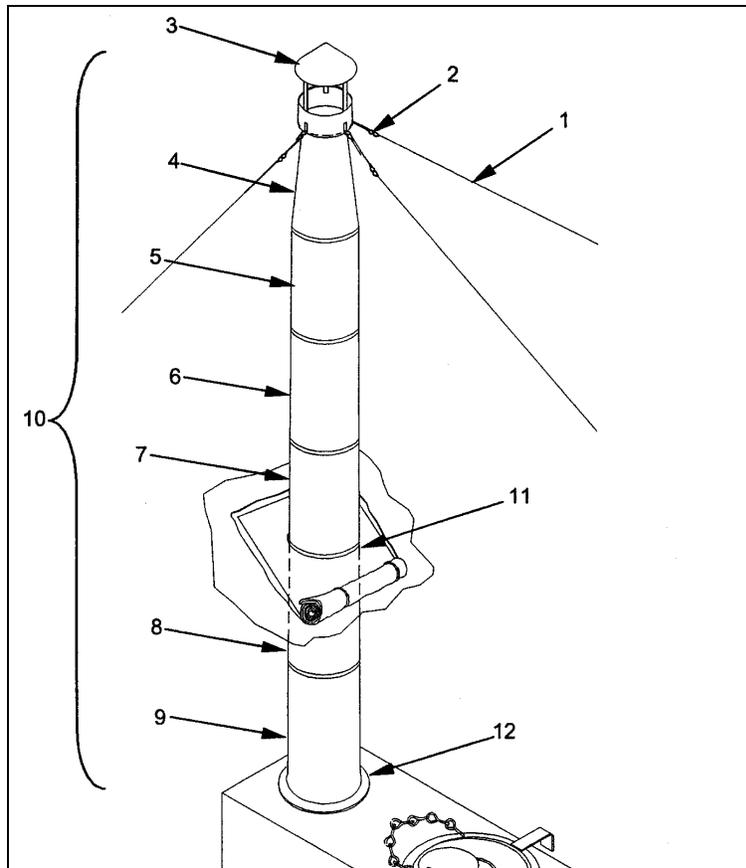

Figure 5
- First time set up only. (See Figure 5) Tie one end of each shelter line (1) to each wire rope (2) on stack cap (3). Set this assembly aside.